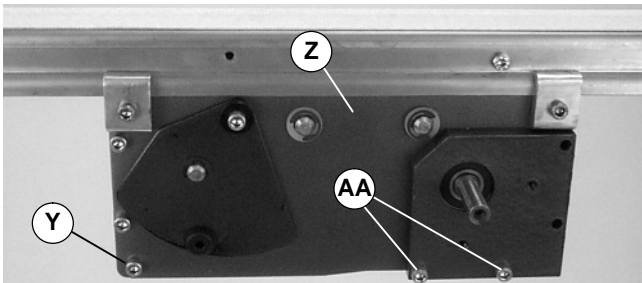

Figure 17
3. Loosen screw (Y of Figures 17 & 18) on each side of center drive module (Z).
4. Remove screws (AA of Figures 17 & 18) on each side of center drive module (Z).
7. Loosen screw (Y of Figures 17 & 18) on each side of center drive module (Z).
8. Remove screws (AA of Figures 17 & 18) on each side of center drive module (Z).